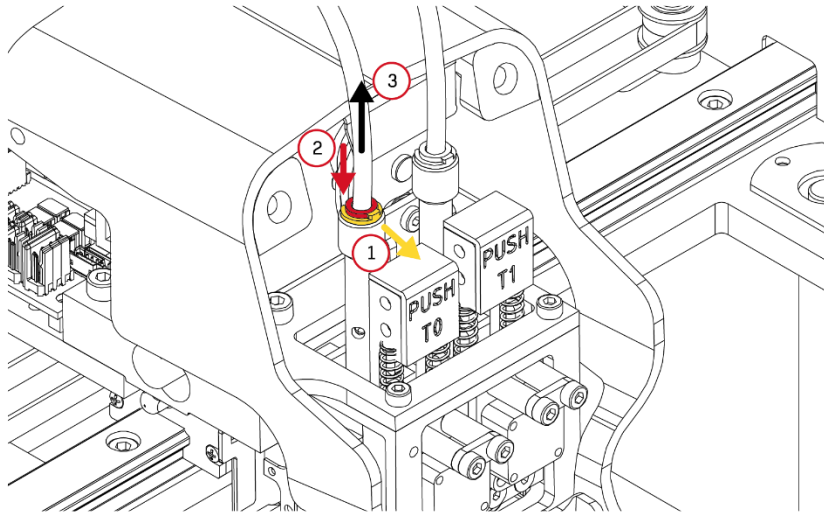
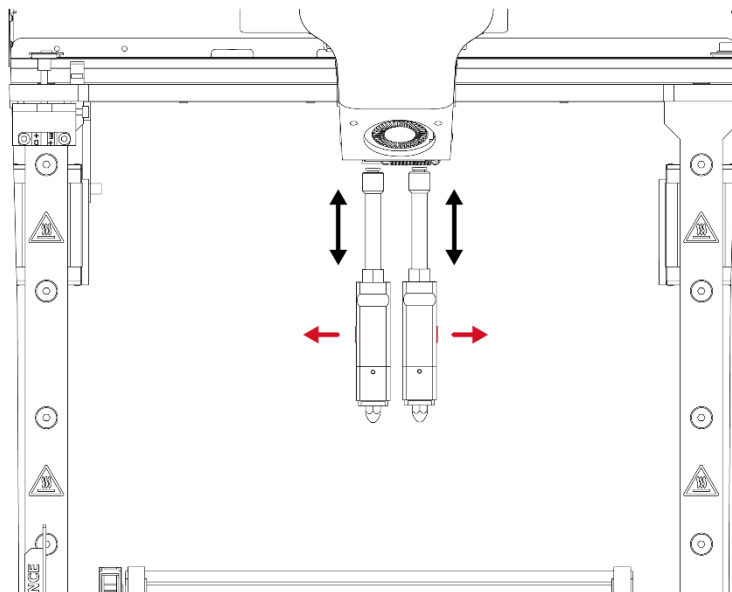

Fig. 52 Sliding the bowden tube out
Fig. 54 Proper hotend position (contacts directed outwards)
4. Disconnect the bowden tube from the hotend (fig. 52):
- a) slide the C-shaped lock out (fig. 52, step 1),
- b) press the connector lock (fig. 52, step 2) and simultaneously slide out the bowden tube (fig. 52, step 3).
Gently bend the stopper and simultaneously press fully and hold the PUSH key. Insert the hotend into the clamping ring until resistance is felt and release the PUSH key and the stopper. When inserting the hotend, make sure it is set correctly – the contacts should be directed outwards and the horizontal groove should be directed towards the user (fig. 54). Next, slide the bowden tube into the hotend as shown in fig. 52. Properly installed short bowden tube will be visible in the hole in the hotend guiding sleeve (fig. 40).